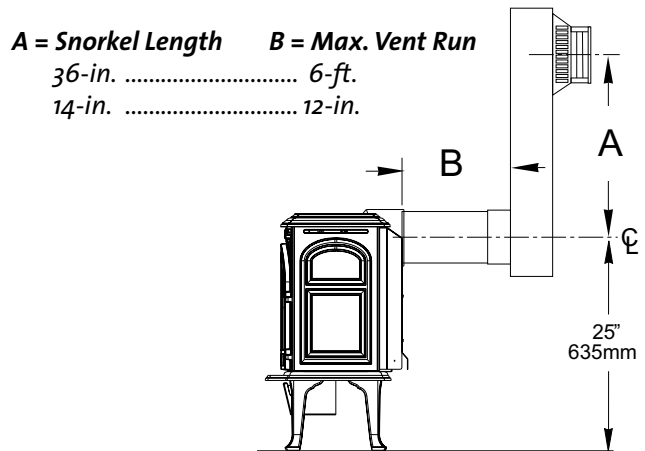

Figure 19.
- **14" Snorkel:** ONLY approved for maximum 12" horizontal termination with no elbow. See fig. 19.